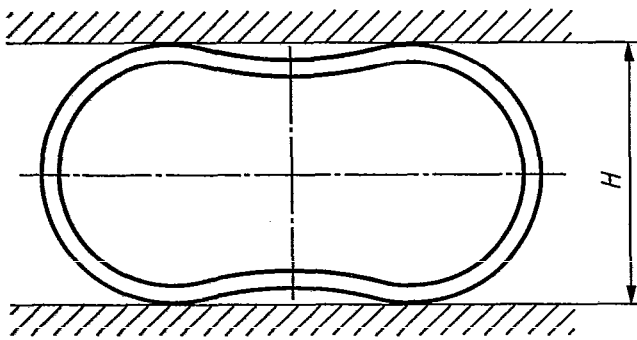

Figure 2
5.2 Flattening test (see figure 2)